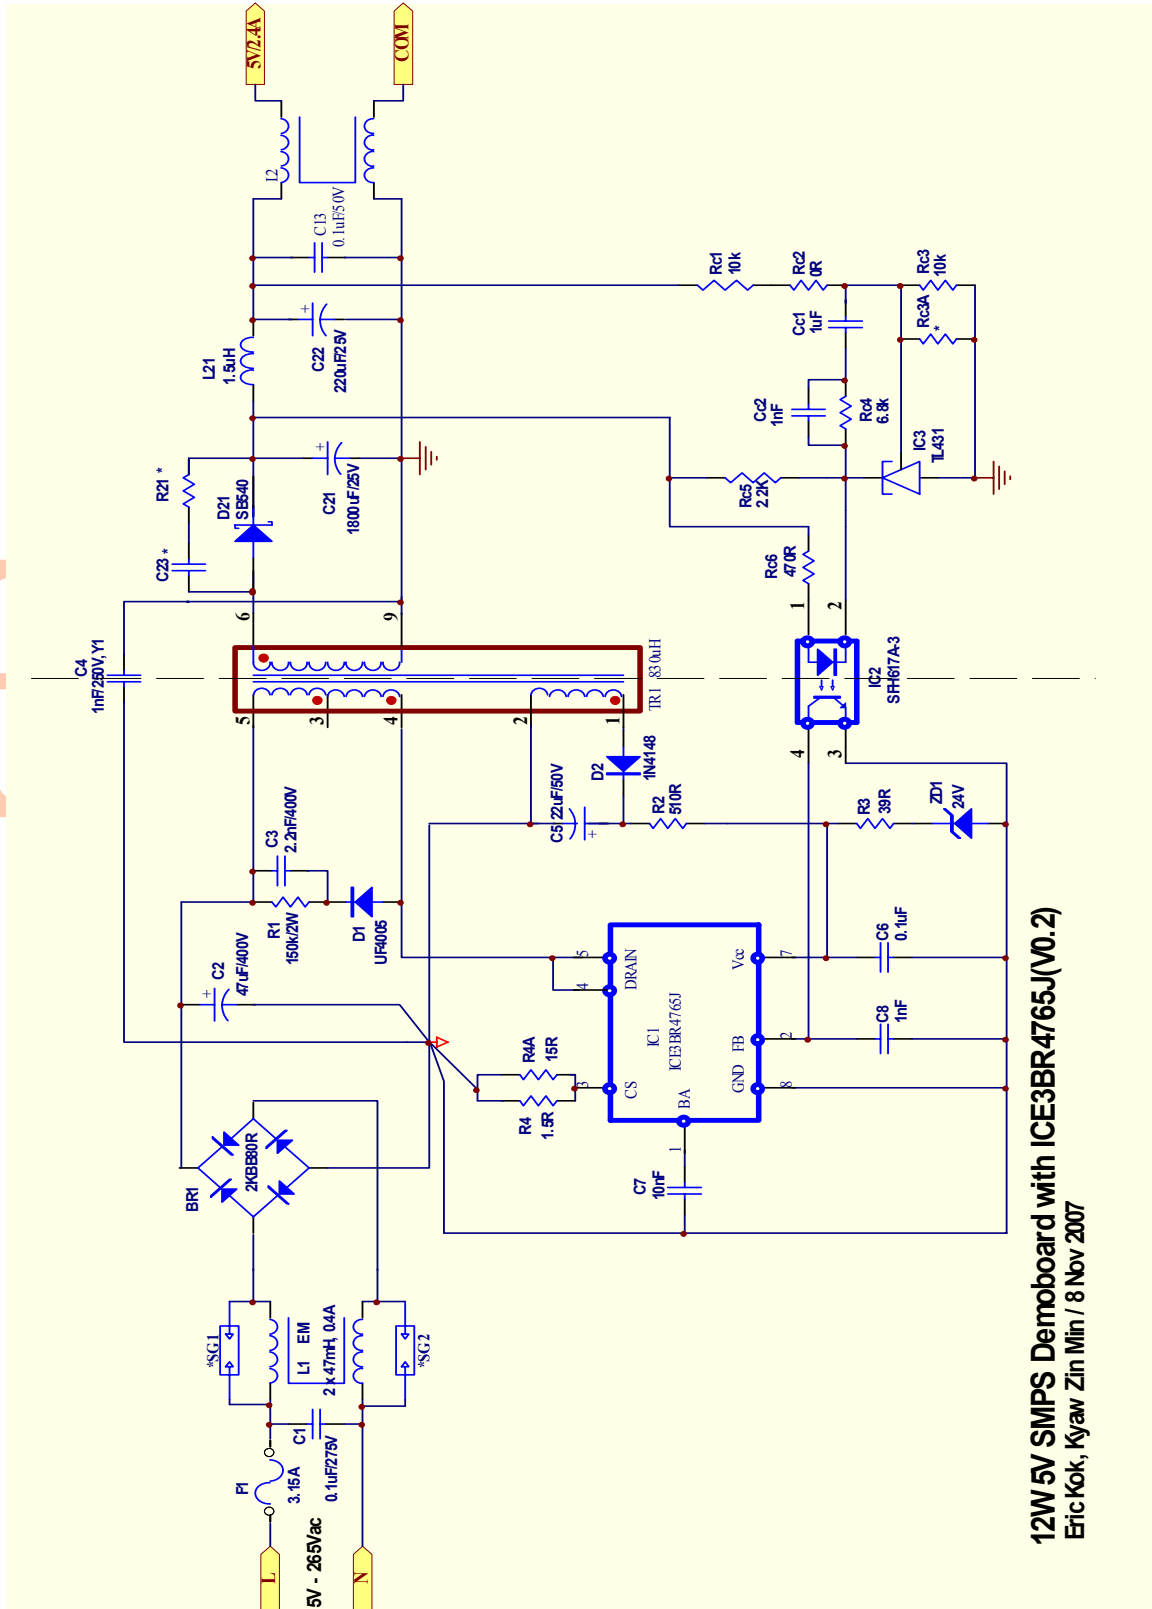

Figure 5 Typical application circuit with ICE3BR4765J 12W 5V
where, R_{opto} : series resistor with opto-coupler at secondary side (e.g. Rc6 in Figure 5), R_{FB} : IC internal pull up resistor connected to FB pin ($R_{FB}=15.4K\Omega$), G_{opto} : current transfer gain of opto-coupler, G_{TL431} : voltage transfer gain of the loop compensation network (e.g. Rc1, Rc2, Rc3, Rc4, Cc1, Cc2 in Figure 5), ΔV_{FB} : feedback voltage change (0.5V)
Usually there is a noise coupling capacitor at the FB pin to filter the switching noise and spike (e.g. C8 in Figure 5). However, if this capacitor is too large ($>10nF$), it would affect the normal operation of the controller. This capacitor should be as small as possible (without the capacitor is the best). In the mean time, it is found that this filter capacitor will also affect the output ripple voltage during burst mode; larger capacitance will get larger ripple voltage and smaller capacitance get lower ripple voltage.
It is particularly important that the V_{CC} voltage must stay above V_{VCCoff} (i.e. 10.5V). Otherwise, the expected low standby power cannot be achieved. The IC will go into auto-restart mode instead of Active Burst Mode. A reference V_{CC} circuit is presented in Figure 5. This is for a low cost transformer design where the transformer coupling is not too good. Thus the circuit R3 and Zd1 is added to clamp the V_{CC} voltage exceeding 25V in extreme case such as high load and the V_{CC} OVP protection is triggered. If the transformer coupling is good, this circuit is not needed.
2. Add snubber circuit to the output rectifier: Most of the radiated EMI noise comes out from the output of the system esp. for a system with output cable. Adding snubber circuit (R21 and C23) to the output rectifier is a more direct way to suppress those EMI noise (refer to Figure 5).